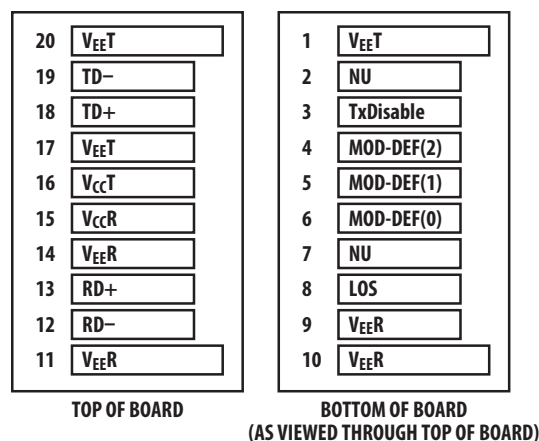
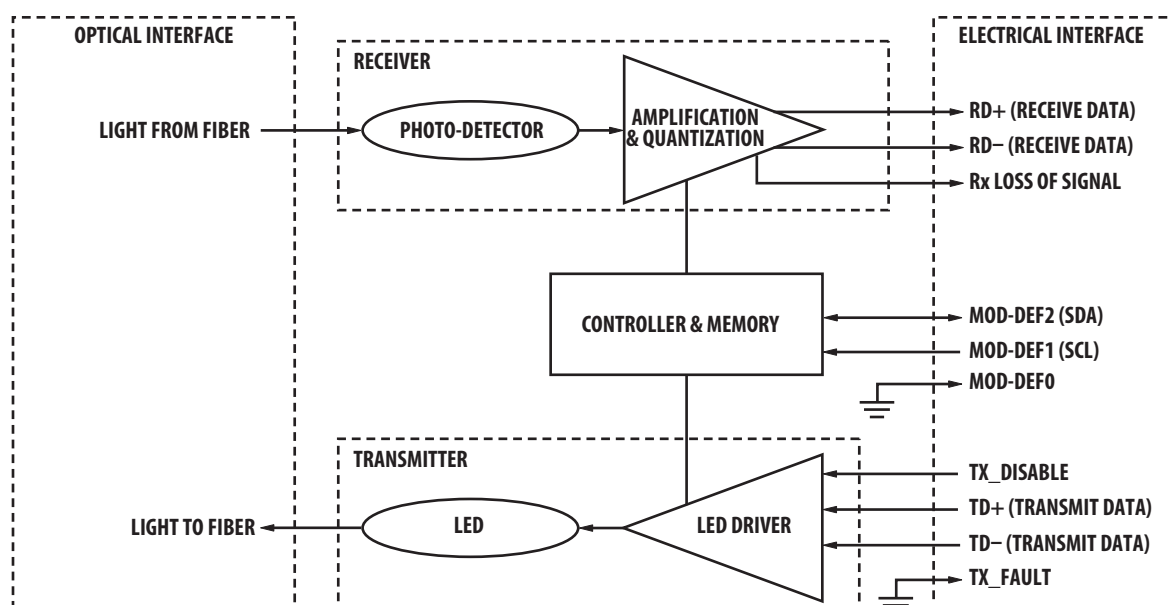
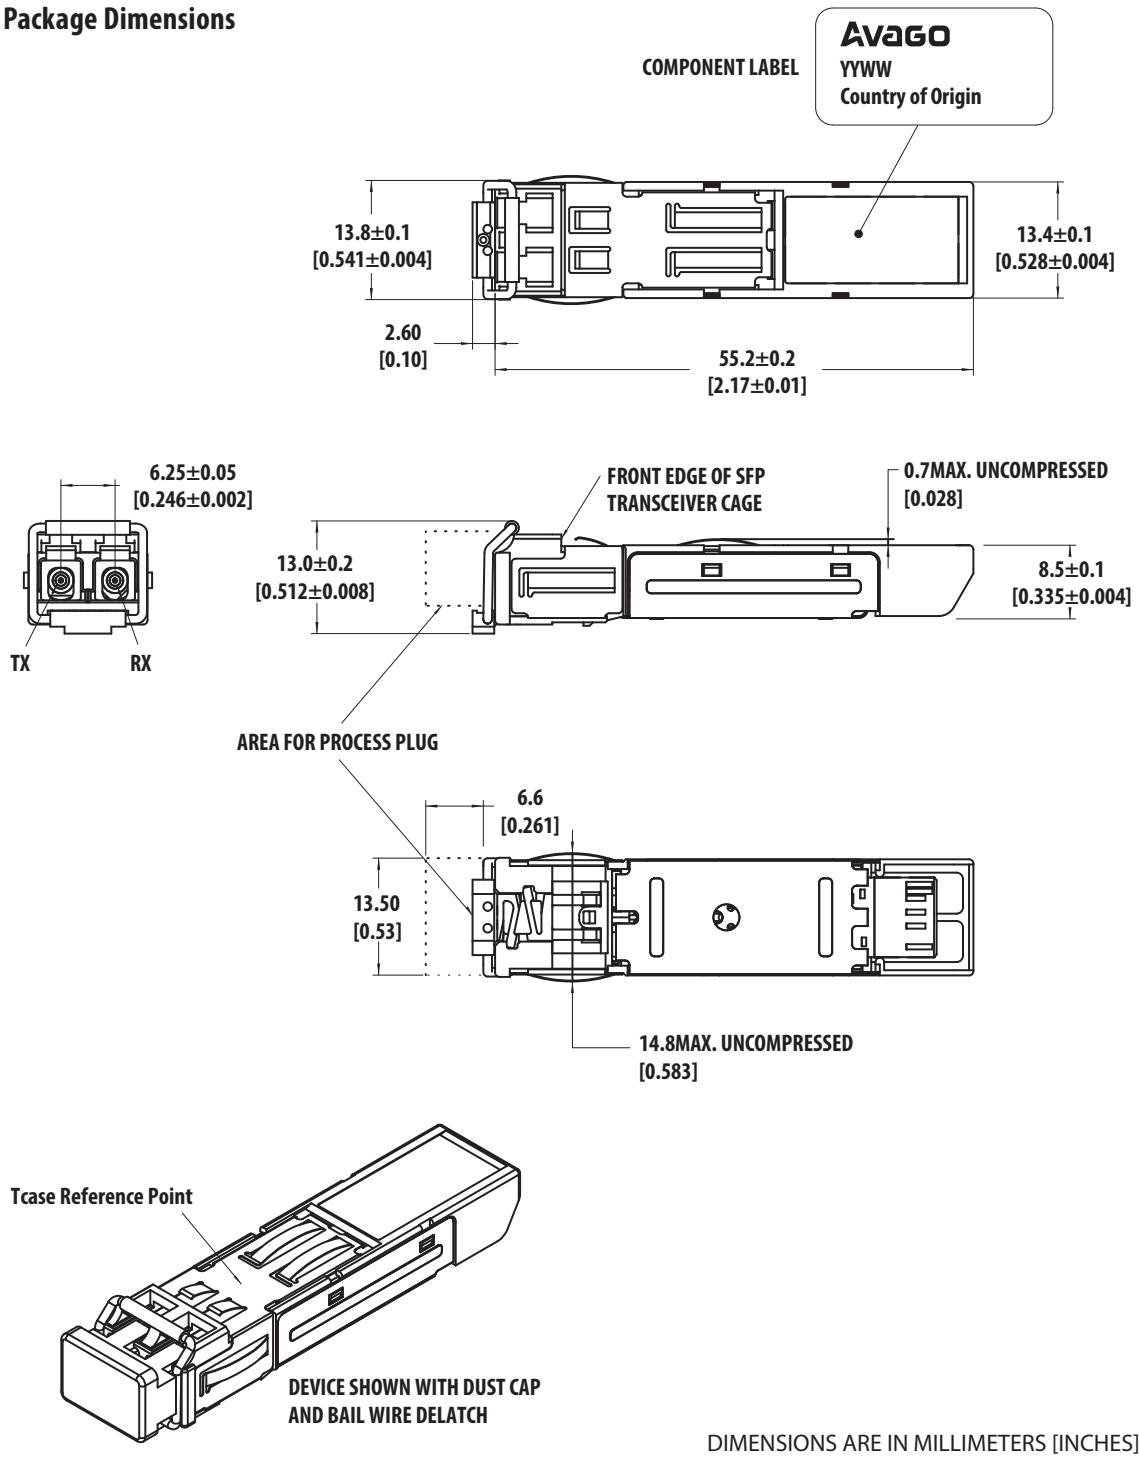

Figure 2. Connection diagram of module printed circuit board.
Figure 1. Transceiver functional diagram
Figure 5. Module Drawing
Figure 1 illustrates the major functional components of the AFBR-57E6APZ. The connection diagram of the module is shown in Figure 2. Figures 5 to 7 depict the external configuration and dimensions of the module.
This printed circuit board card edge connector is depicted in Figure 2.
1. The case temperature is measured at the surface of the topside (see figure5 Module drawing) using a thermocouple connected to the housing.